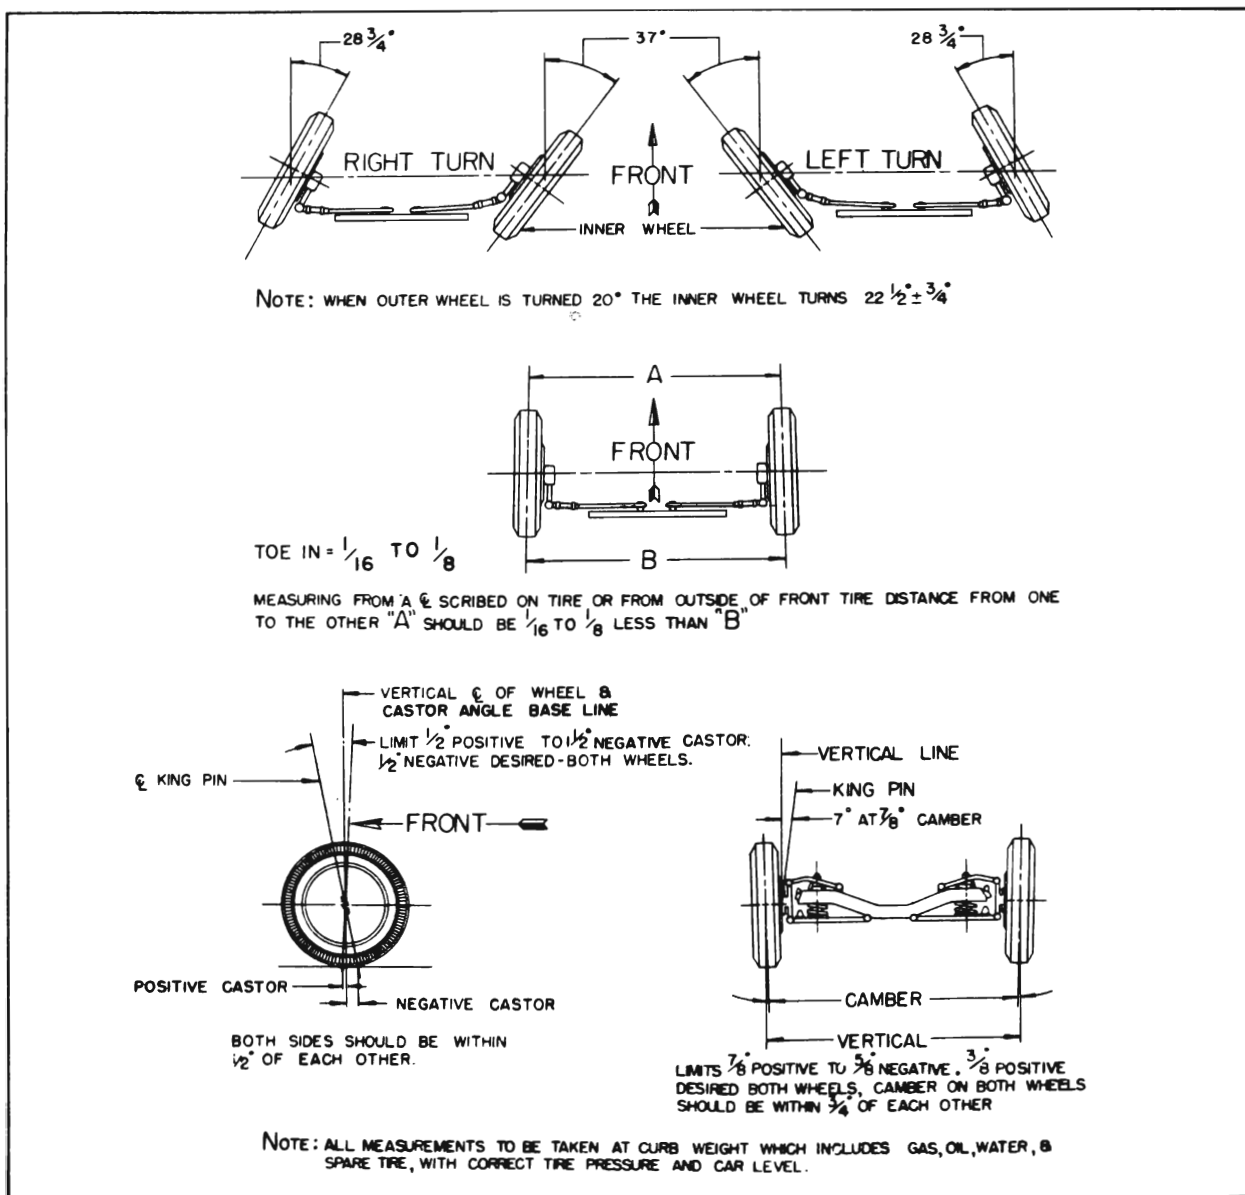

Figure 7-16—Front Wheel Alignment Specification Chart
Caster and camber should be within the limits shown in figure 7-16. Note that the caster angles at both front wheels need not be exactly the same but must be within $\frac{1}{2}$ degree of each other. Likewise, the camber angles on both sides must be within $\frac{3}{4}$ degrees of each other. If caster and camber are not within the specified limits, adjust as described below.
Caster and camber must be adjusted together to obtain the best average setting of each within the specified limits given in figure 7-16.
2. Insert $\frac{1}{4}$ " Allen wrench into hex socket in end of upper pivot pin, then turn pivot pin as required to bring the caster and camber settings within the limits specified in figure 7-16. One-quarter turn of pivot pin changes caster angle $\frac{1}{4}$ degree. One-half turn of pivot pin gives the maximum available range of camber adjustment.
With camber known to be within specified limits, king pin inclination should check within specified limits given in figure 7-16.
3. Using a suitable toe-in gauge, measure the distance between outside walls of tires at the front at approximately 10" from the floor. See figure 7-16 dimension "A." Mark points where gauge contacts tires. **NOTE:** *An accurate check also can be made by raising and rotating front wheels to scribe a fine line near the center of each tire, then, with tires on the floor and front spring trim height correct, measure between scribed lines with a suitable trammel.*
floor at the rear, and measure the distance between points used in Step 3 above. The measurement at the front (dimension "A") should be $\frac{1}{16}$ " to $\frac{1}{8}$ " less than the measurement at the rear (dimension "B"). See figure 7-16.
1. With the front wheels resting on full floating turntables, turn wheels to the right until the outside (left) wheel is set at 20 degrees. The inside (right) wheel should then set at angle specified in figure 7-16.
2. Repeat this test by turning front wheels to the left until the outside (right) wheel sets at 20 degrees; the inside (left) wheel should then set at angle specified in figure 7-16.